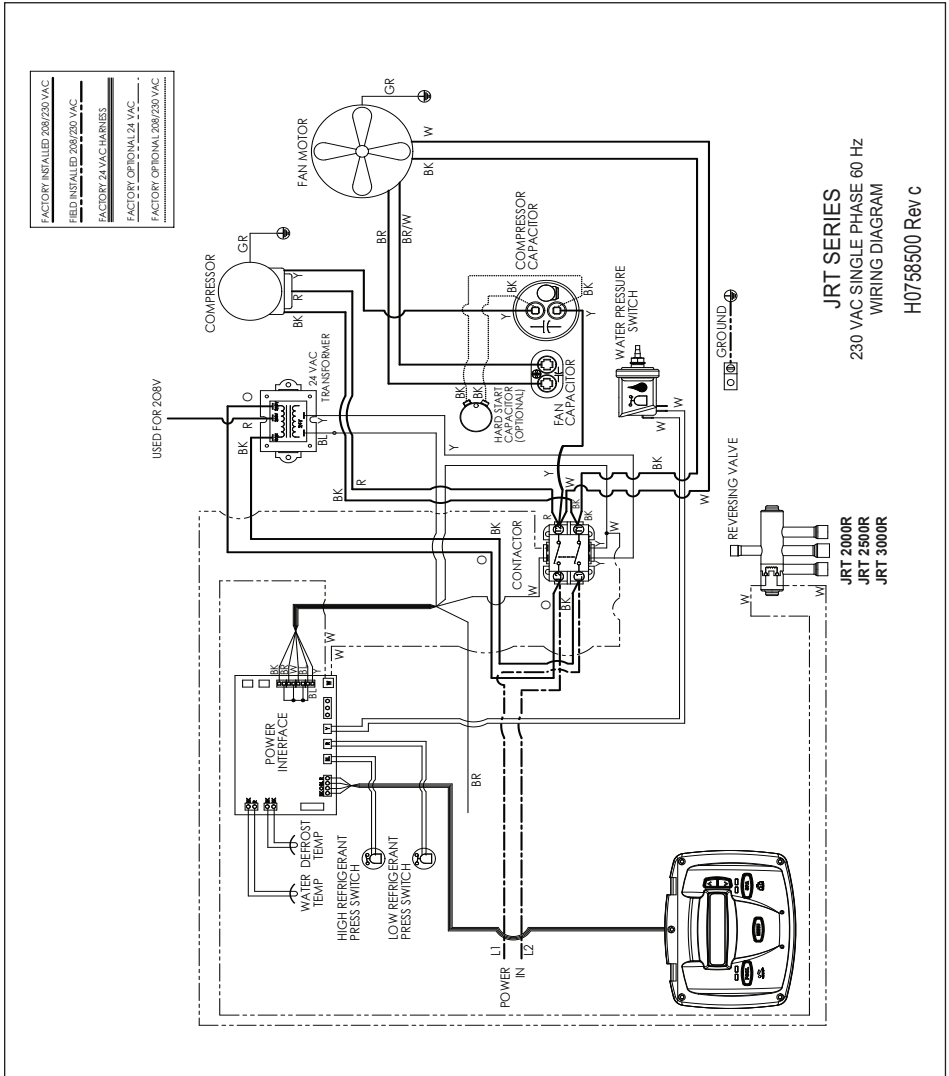
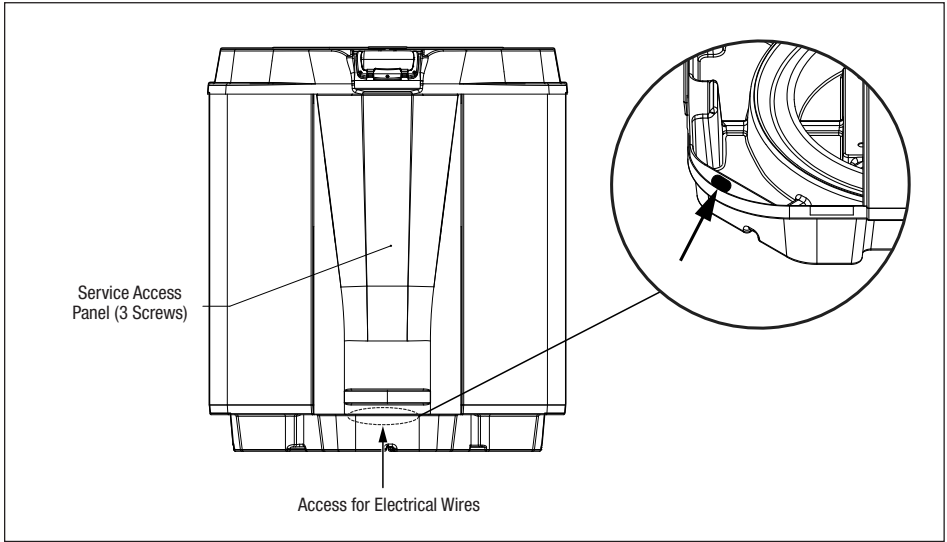

Figure 8. JRT Single-Phase Electrical Supply Wiring Diagram
Figure 10. Jandy JRT Heat Pump Front View
Wiring connections must be made exactly as shown in the wiring diagram found on the inside of the heat pump access compartment (see *Figure 8* for single phase electrical wiring). The heat pump must include a definite means of grounding and bonding. There is a bonding lug on the right side of the heat pump, where a bond wire must be attached.
2. Remove the three (3) screws that attach the service/access panel to the heat pump unit (see *Figure 10*).
8. Connect the wires to the terminals on the main contactor as shown in the wiring diagram. See *Figure 8*.
2. Remove the screws that attach the service/access panel to the heat pump unit and the cover to the junction box (see Figure 10).
- Remove the three (3) screws that attach the front panel to the heat pump and remove the front panel. See *Figure 10*.
- Run four (4) 22 AWG solid copper wires into the low voltage soft membrane located on the lower left-hand side of the heat pump. The wires may be up to 300 feet (91.4 m) in length.
- Connect the wires to the 4 position terminal on the lower left-hand corner of the Power Interface PC Board, labeled “User Interface1”. See *Figure 8*. The wires will be added to the existing wiring to the User Interface installed on the heat pump.